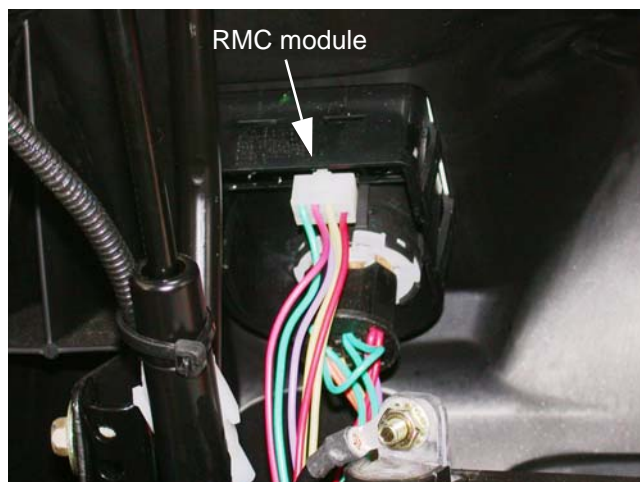

Figure 38.8
38.8. The RMC Module is in the same housing as the key switch, and is not available separately. For the purpose of diagnosis it is treated separately. Diagnosis in unit with the key switch introduces too many over-lapping variables. See Figure 38.8.